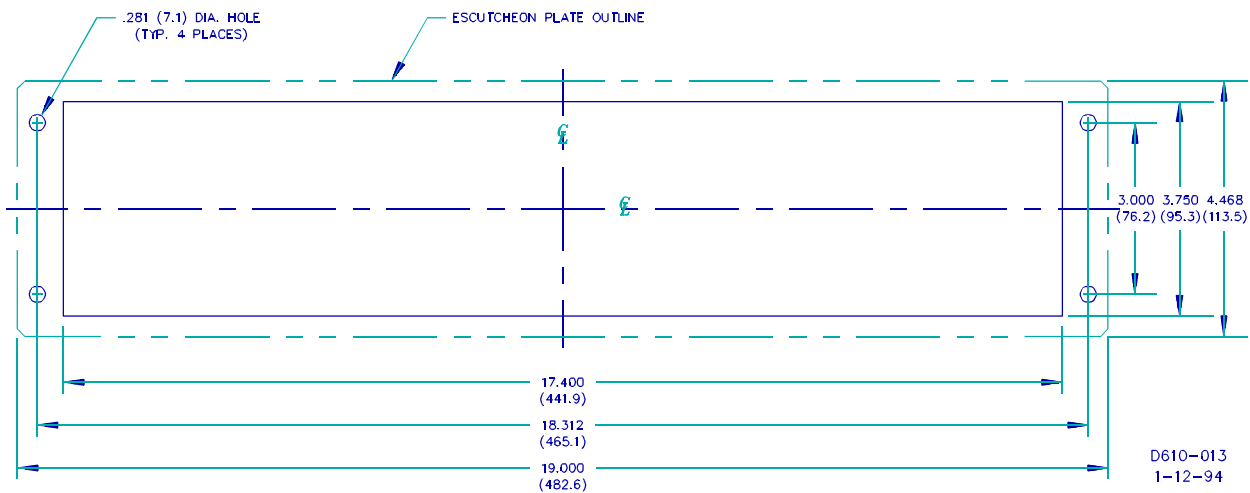
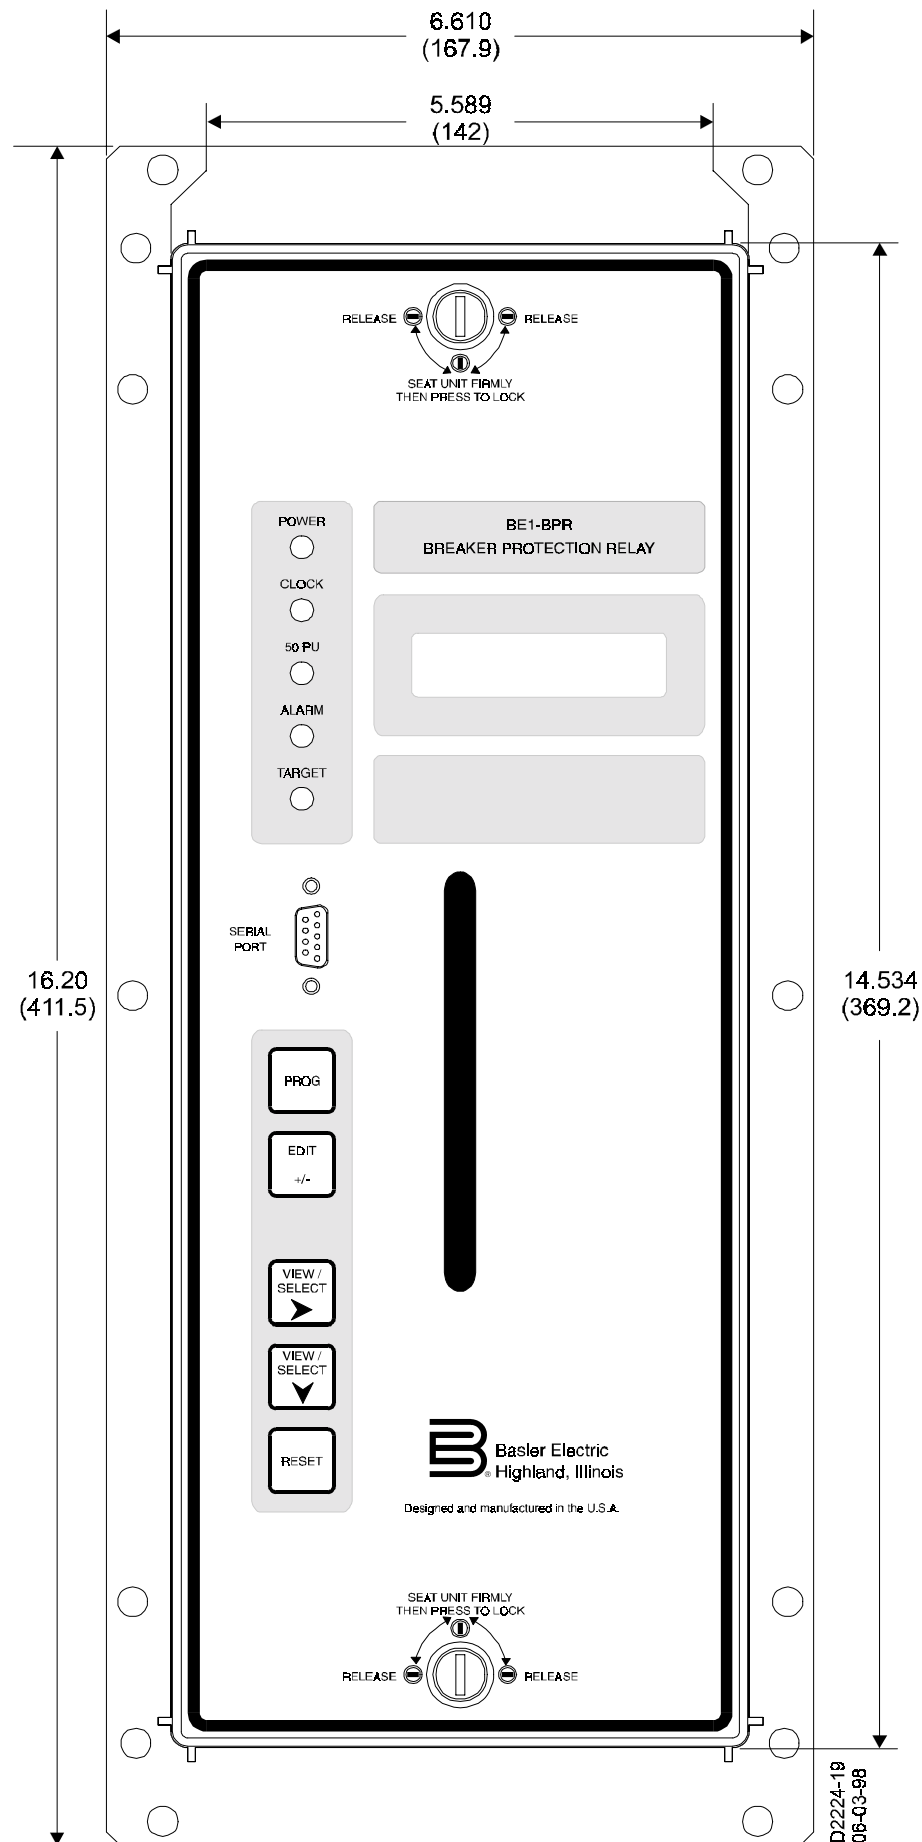
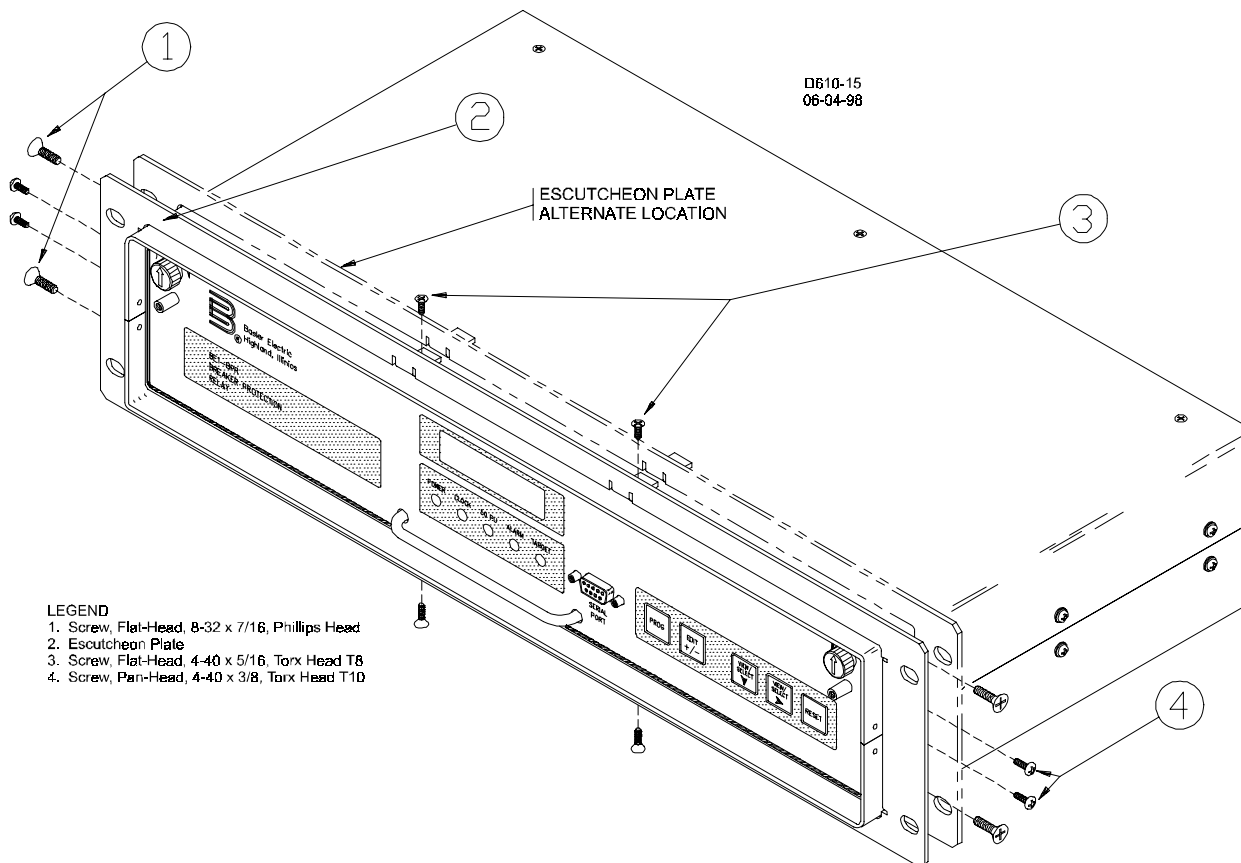
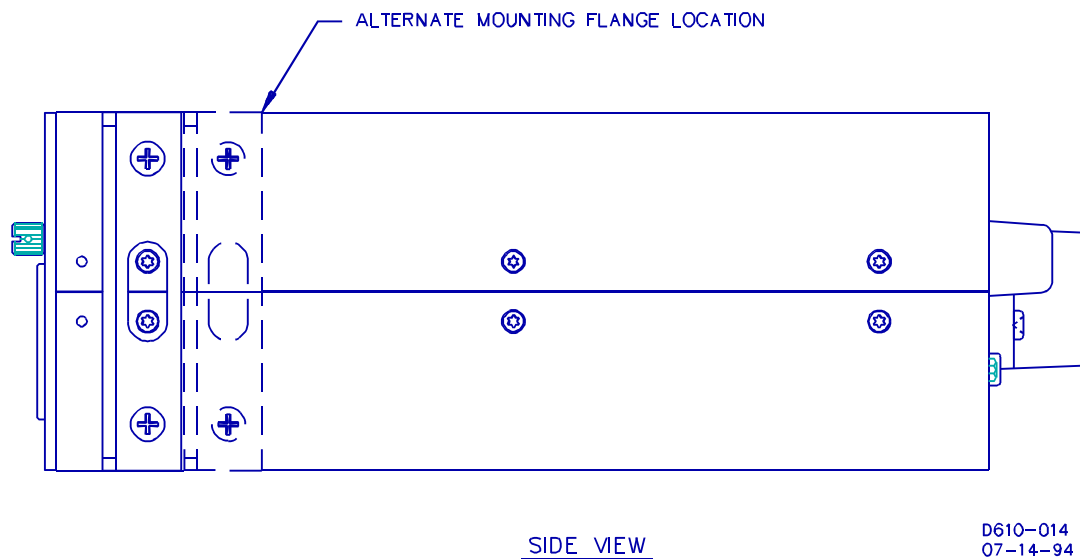

Figure 7-2. Cutout Dimensions (Panel Mount)
Figure 7-3. Overall Dimensions (Vertical Mount)
Figure 7-6. Escutcheon Plate Mounting (Vertical Mount Not Shown)
Figure 7-7. BE1-BPR Alternate Mounting Location (Vertical Mount Not Shown)
BE1-BPR relays are designed to be mounted in either 19 inch racks or conventional panels. Overall dimensions for the rack unit are shown in Figure 7-1. The rack unit may be panel mounted at any convenient angle, using the cutout dimensions of Figure 7-2 as a guide. Figures 7-3 and 7-4 show the dimensions for the vertical panel mount. The cutout dimensions for the vertical panel mount are shown in Figure 7-5. When panel mounting the rack unit, an optional escutcheon plate can be installed to cover variations in panel cutouts. Figure 7-6 shows the mounting flanges removed and the escutcheon plate installed. Figure 7-7 shows the mounting flange and alternate location that requires less mounting depth.
When installing the escutcheon plate at the alternate location (requires less space behind the mounting panel), position the escutcheon plate in the alternate location and install the four screws (3) that are provided with the optional escutcheon plate kit. Refer to Figure 7-7 for the alternate location side view. Reinstall four screws (4). Reinstall the four screws (1) through the escutcheon plate into the relay at the alternate location.